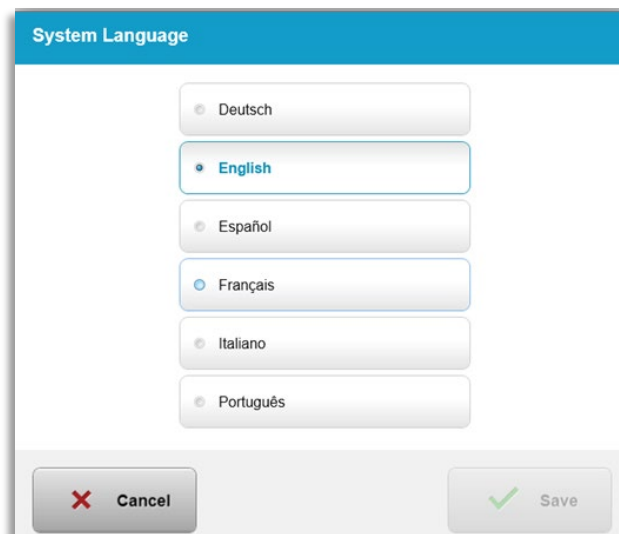

Figure 3-56. Edit System Language
- Select the desired language from the menu as shown in Figure 3-56.